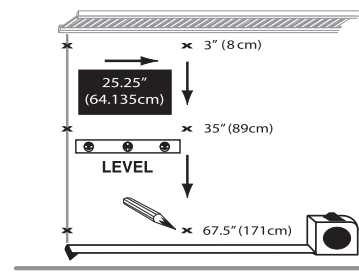

FIG. 2.4
- Measure towards fixed wall end of shelf 25 1/4". Then in a level plane mark the 3 locations. (Fig. 2.4)